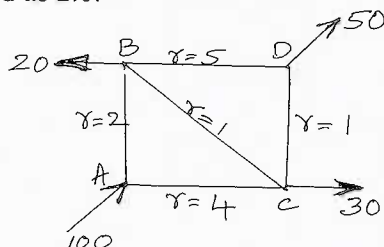

Fig.Q10(c)
c. For a pipe network shown in Fig.Q10(c), determine the flow in each pipe. The value of n may be assumed as 2.0.